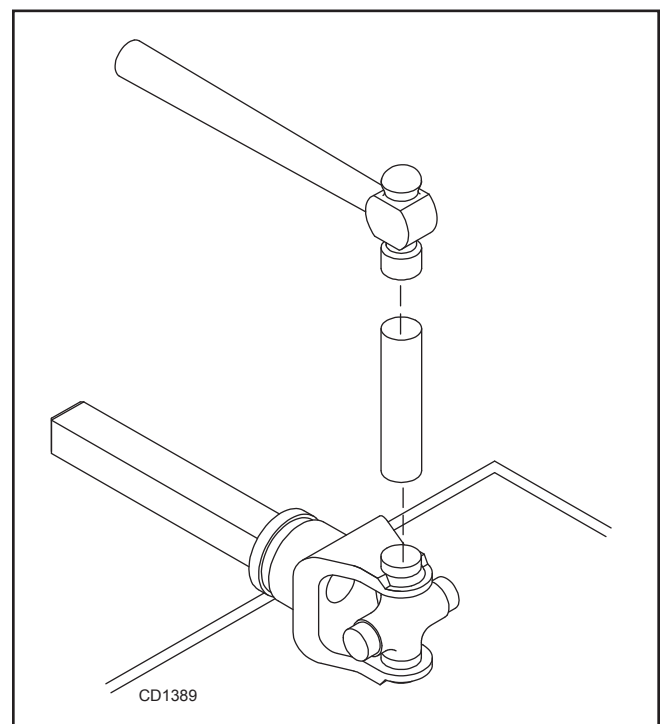

Figure 28.
3. Seat cups by placing a drift or socket (slightly smaller than the cup) on cup and rap with a hammer. See Figure 28. Install snap ring and repeat on opposite cup.